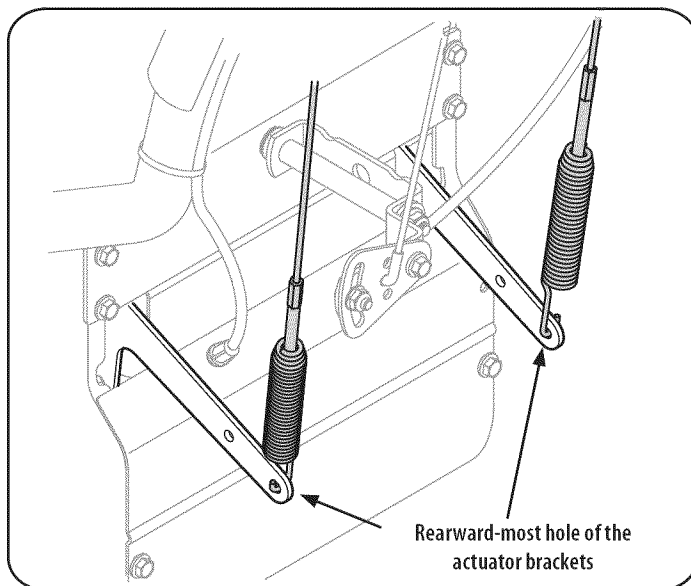

Figure 13
1. From beneath the handle, pull downward on the appropriate cable and unhook the spring found on the end of the cable from its respective actuator bracket. Refer to Figure 13.
NOTE: For ease of removal for adjustment, assemble the hooks of the springs facing towards the wheels as shown in Figure 13.